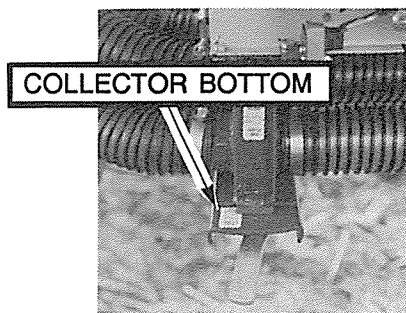

Figure 31
- Check for and remove any water in primary collectors after rainy weather. Remove both front and rear cleanout doors and collector bottom to drain water from the tank and collectors. (See Fig. 31, A, B & C).